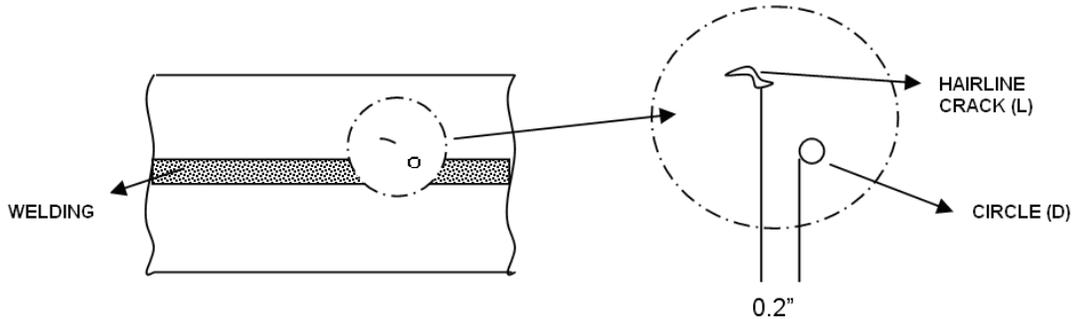

Figure 28-3 Damage Types
Fuel tank failure or leakage points may be hairline cracks (L) or circles (D) as shown in the Figure 28-3. Classification is shown in Table 28-1.